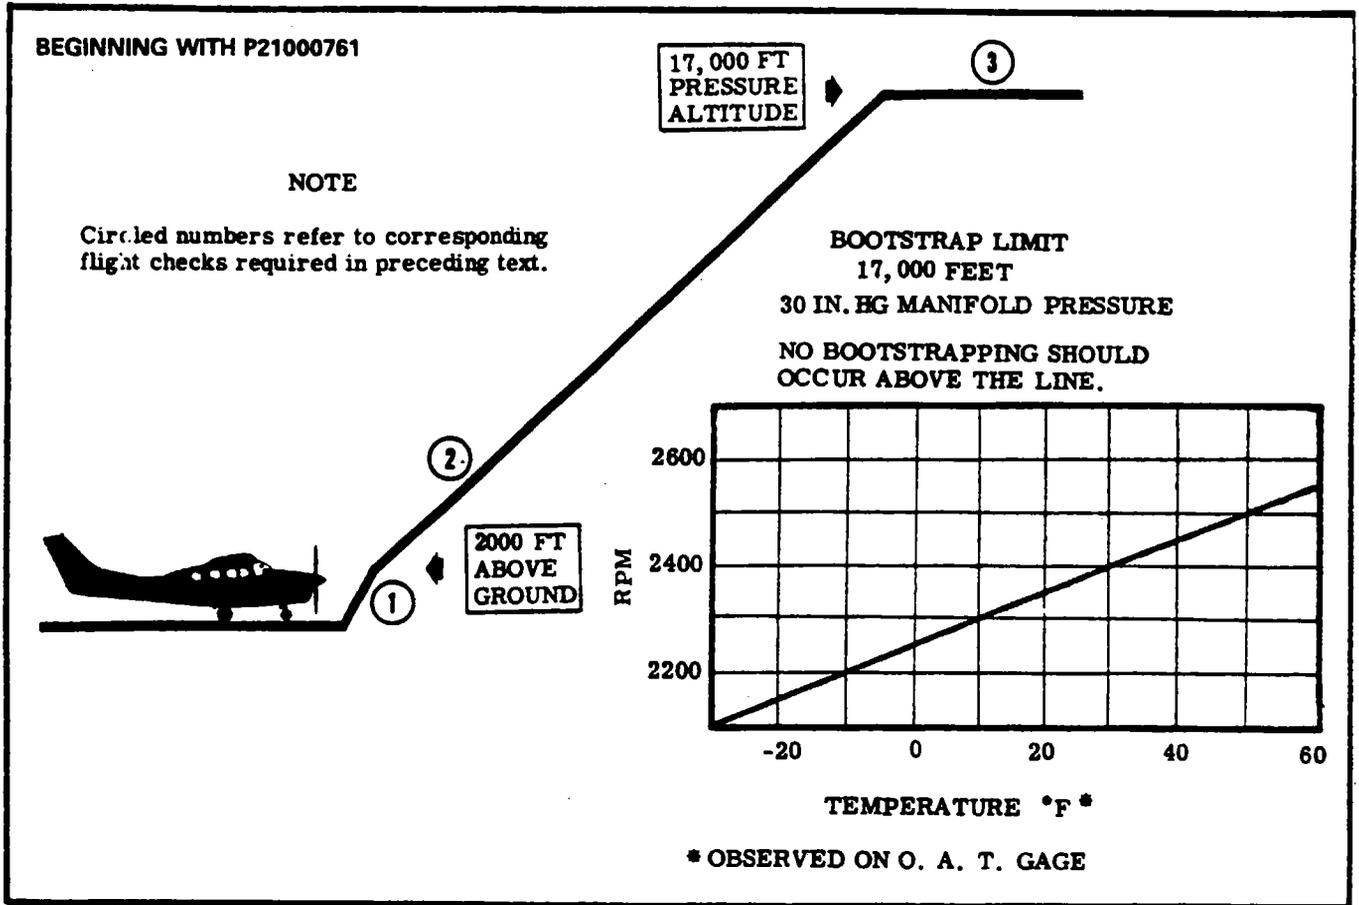

Figure 12-17B. Operational Flight Check
If the wastegate closes at engine speeds lower than shown on the chart in figure 12-17B, the turbocharger performance is normal. If the wastegate closes at engine speeds higher than shown in figure 12-17B, refer to the trouble shooting chart in paragraph 12-112.
- Note outside air temperature and RPM as manifold pressure starts to drop, which should be in accordance with the chart in figure 12-17B.